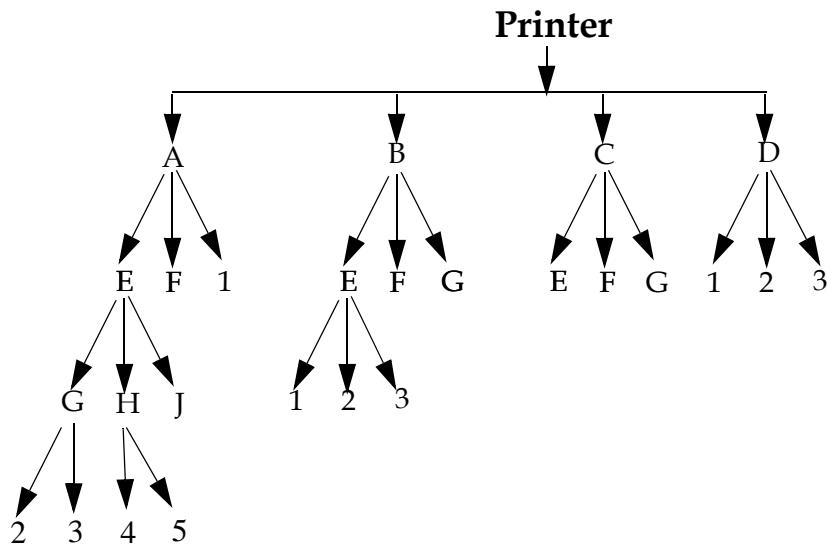

Figure 1: Graphical Representation of the Different Subassemblies and Parts
- An alphabet is assigned to the main assemblies of a printer and each sub assembly under the main assembly. See Figure 1 on page 1-3.
A natural number (1,2,3,...) is assigned to the stand alone parts (in ascending order) through out the breakdown of main assemblies. See Figure 1.